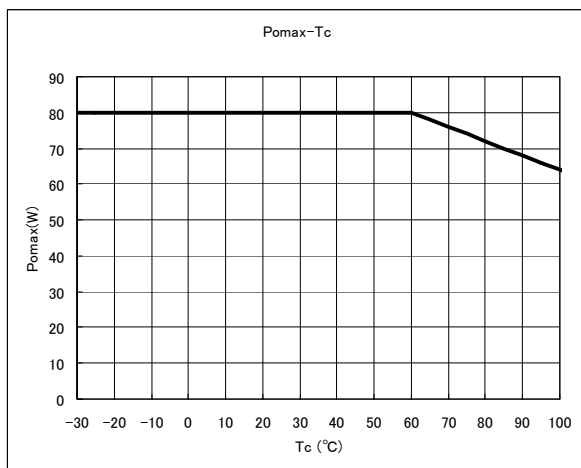
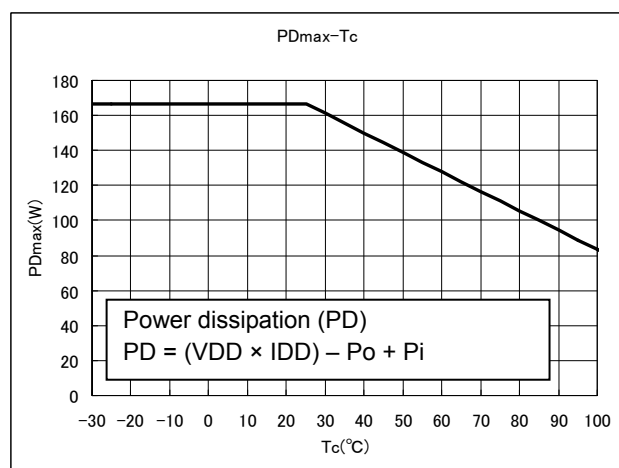

Figure.1 Pomax-Tc
Figure.2 PDmax-Tc
Note 2: The output power rating satisfies the range shown in Figures 1 and 2 according to the operating case temperature. Ensure that the device should be operated within the specified operating range. The figures below indicate the output power obtained 2 seconds after P_o is generated.
*When the device is used at T_c = 100°C, the output power rating is 64 W as shown in Figure 1. When the power dissipation at T_c = 100°C exceeds the rating shown in Figure 2, the output derating is required to limit the dissipation within the specified range.
Note 5: The output power is intended to follow the rating provided in Figure 1 in Note 2.